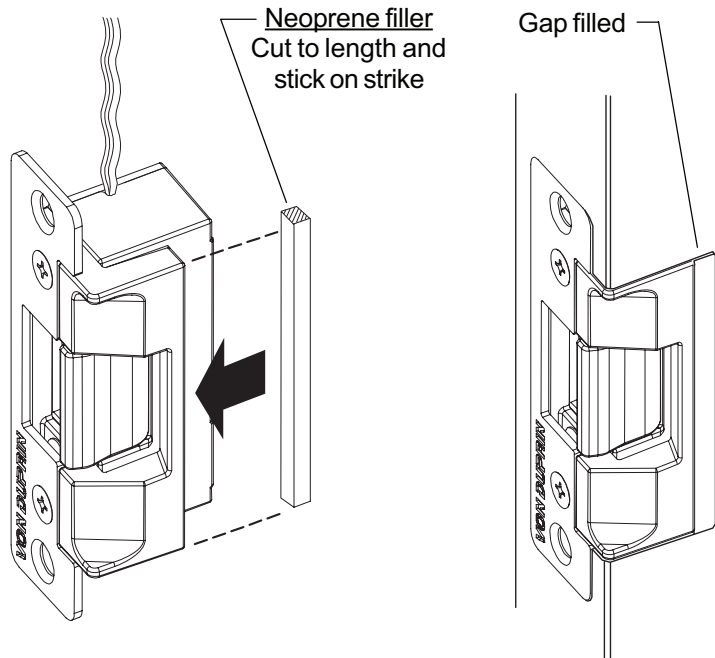

**Figure 5**
7. Wire strike solenoid for proper voltage (Figure 5). **Caution: Do not connect 24 VDC to 12 VDC configured strike.**